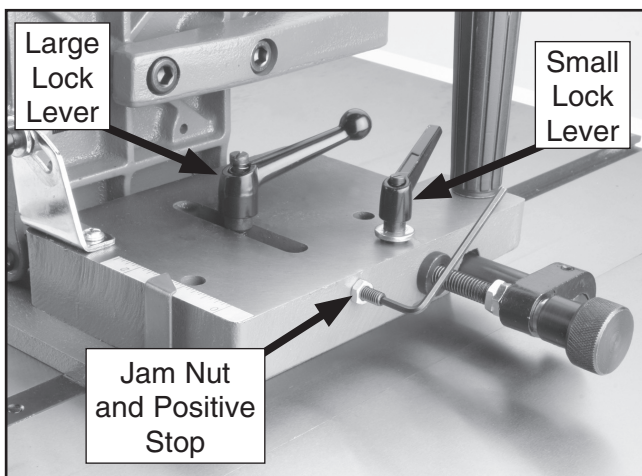

Figure 10. Blade clearance adjustment.
3. Loosen the jam nut and the positive stop approximately 3-4 turns (see **Figure 10**).
4. Loosen the large and small lock levers shown in **Figure 10**.
11. Tighten the small lock lever and use a 3mm hex wrench to turn the positive stop setscrew inward until it stops (see **Figure 10**).